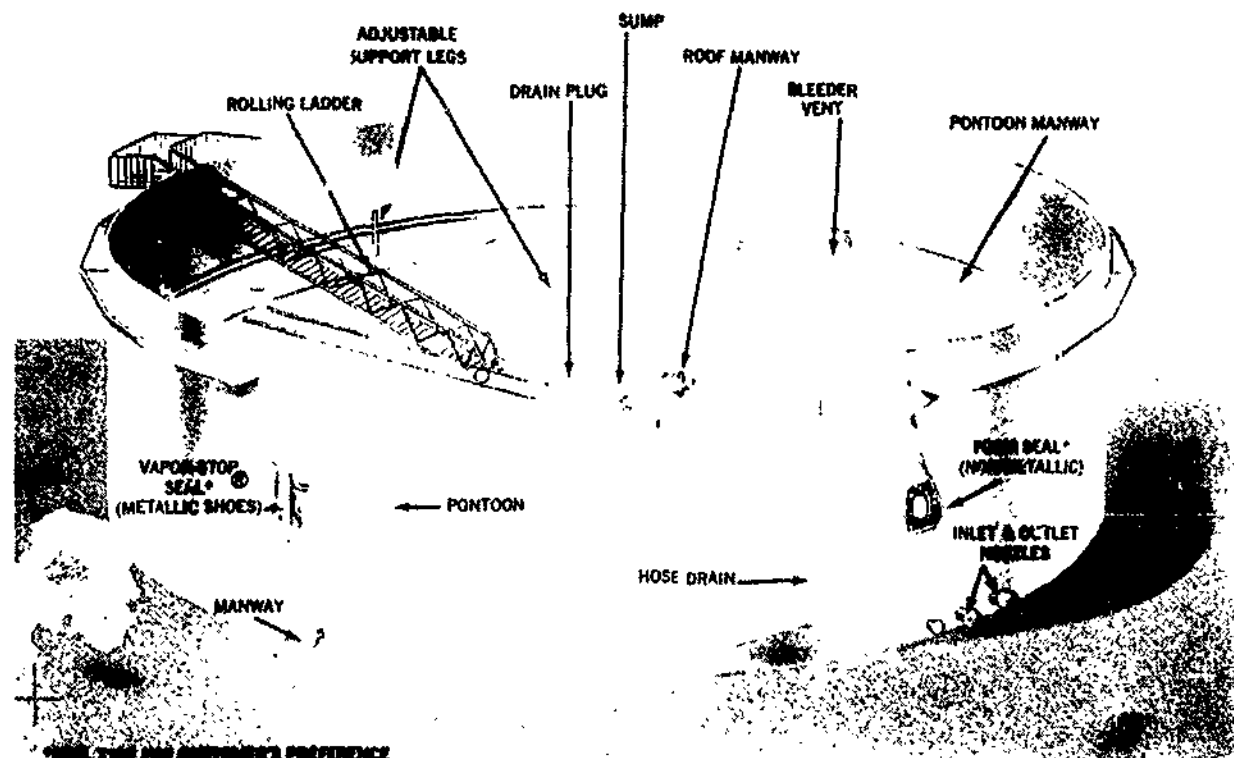

Figure 12-39. Pontoon Floater
**Pontoon Floater** The pontoon floating roof tank provides vapour-saving, anti-corrosive storage since the single deck roof floats directly on the stored liquid. 100% contact is maintained to prevent corrosion by entrapped vapours (Figure 12-39).